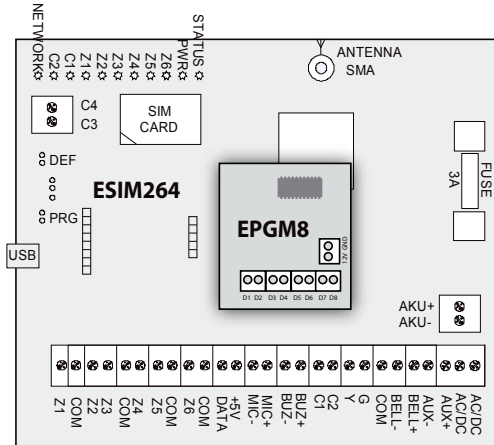

Fig. No. 23
2. Insert EPGM8 pins into appropriate ESIM264 alarm system slots (see Fig. No. 23)